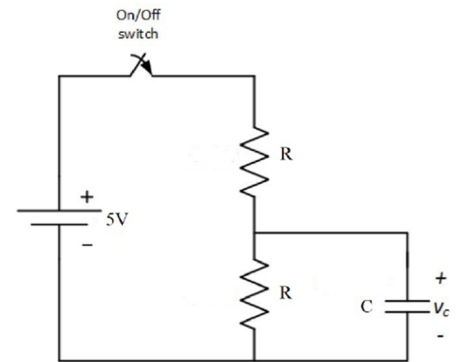

Figure 3: Capacitor charge-discharge circuit
1. Use these guidelines to capture the capacitor voltage of the circuit shown in Figure 3 during (a) charging and (b) discharging.